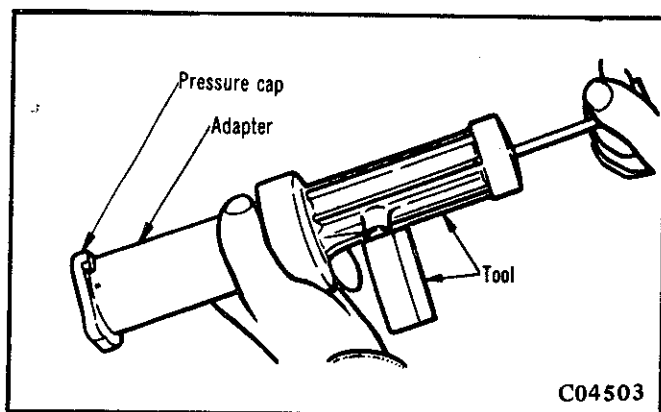

Fig. 3—Testing the pressure cap (Tool E7C15)
(1) Attach neoprene seal and adaptor to tester E7C15 (See Fig. 3).
(2) Dip the pressure cap in water and apply cap to tester adaptor.
(3) Apply specified pressure to cap. If cap fails to hold pressure, replace the cap.